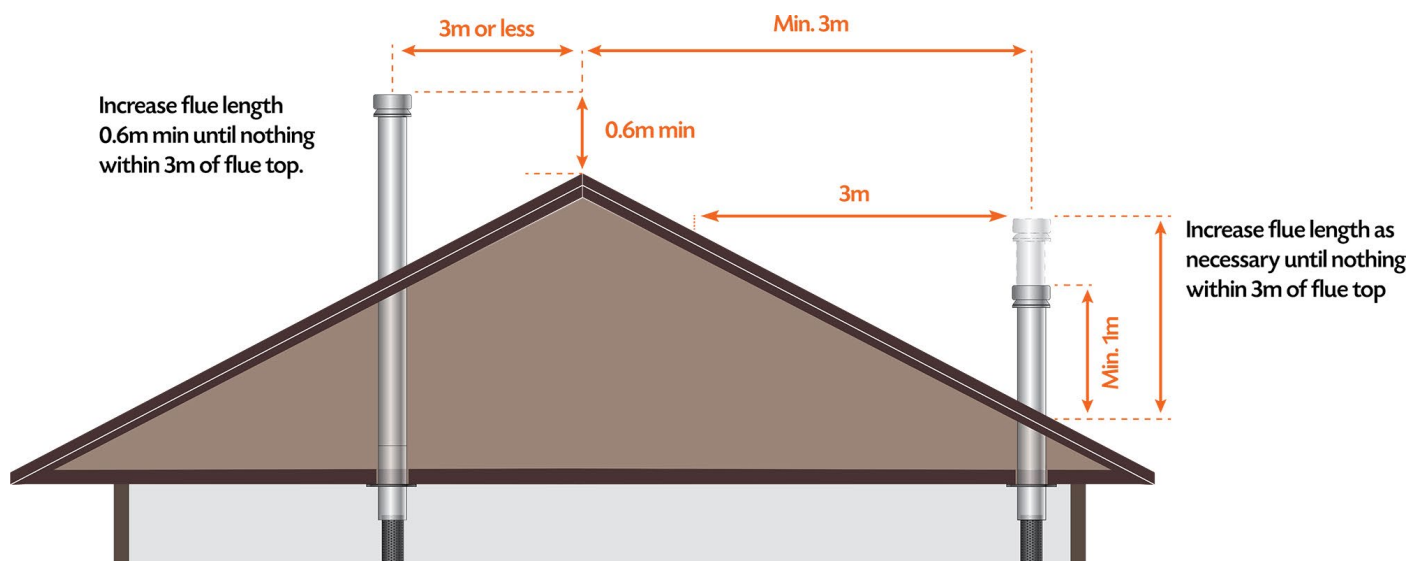

FIGURE 1
7. Add the remaining casings to the required height. Australian/New Zealand Standards state that “the flue pipe shall extend not less than 4.6m above the top of the floor protector”. If the flue pipe is within 3 metres of the ridge, the flue pipe must protrude at least 600mm above the ridge of the roof. If the distance from the ridge is more than 3 metres, the flue pipe must protrude at least 1000mm above roof penetration. Additional lengths of casing and flue may be required to achieve this. The flue pipe must be more than 6 metres from any nearby structure. Other clearances may be applicable, it is up to the installer to ensure compliance with all regulations. **See Figure 1 and 2 on P7.**